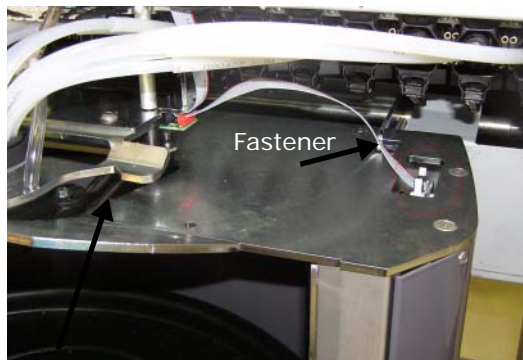

Figure 27: Detach the cable from the cable interface.
5. Detach the cable from the cable interface, see figure 27.
7. Lift up the fasteners which are on top of the can table and detach the upper part of the can table. You can see the fastener on the left in figure 29 and the right one in figure 27.